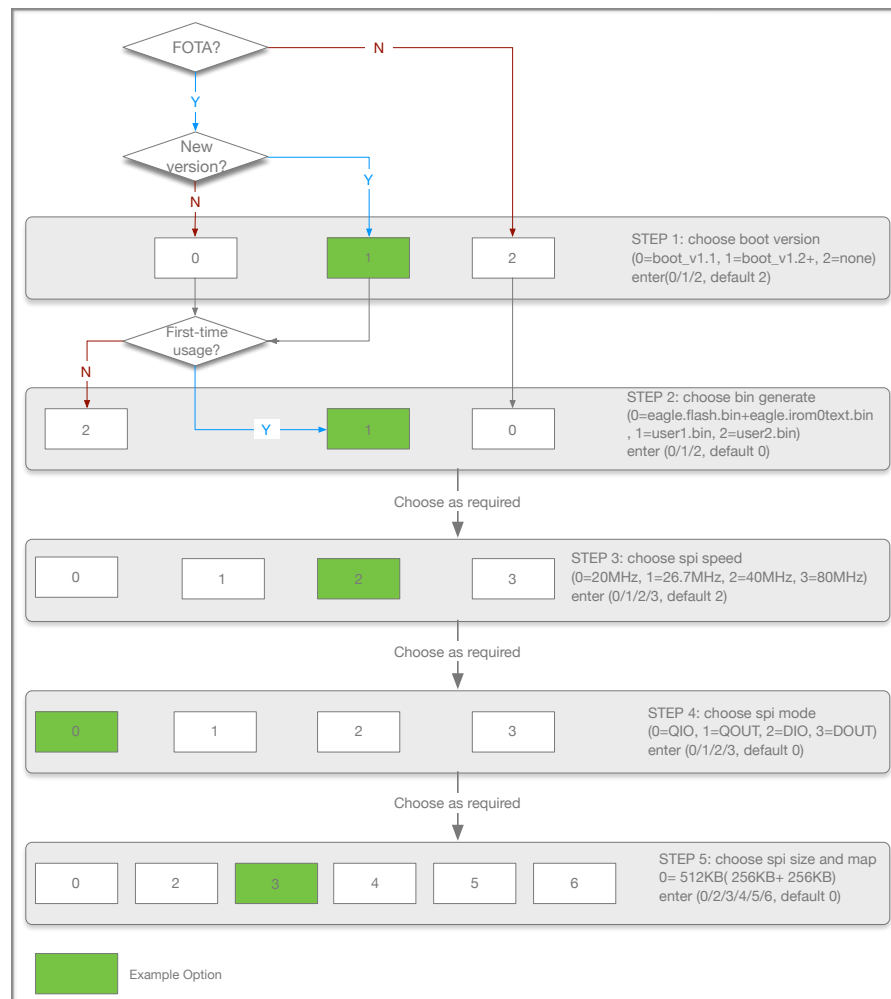

Figure 5-1. Compile SDK
2. Select the required options as shown in Figure 5-1.